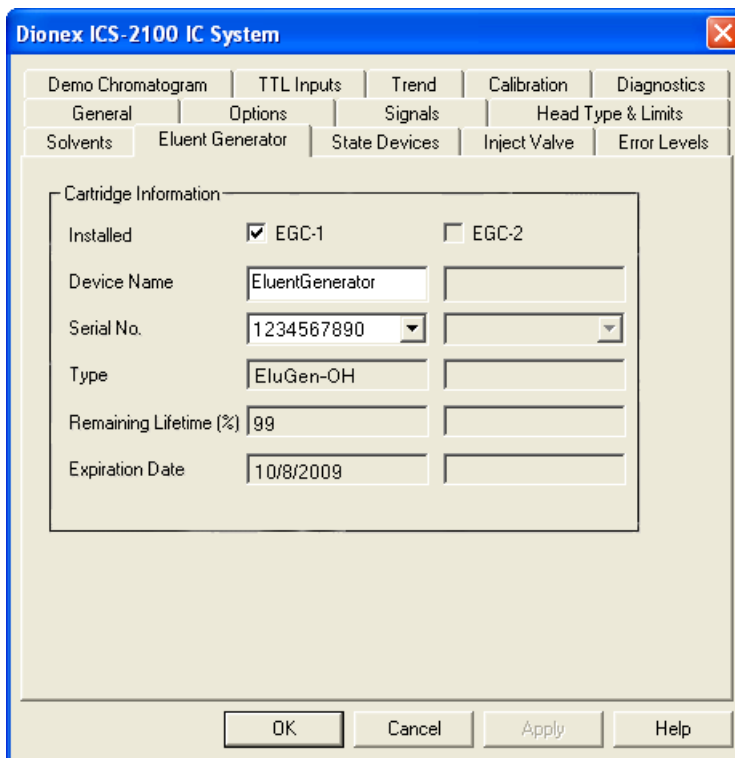

Figure 51. Eluent Generator Configuration Properties: OH Example
3. Click the **Eluent Generator** tab (see Figure 51).